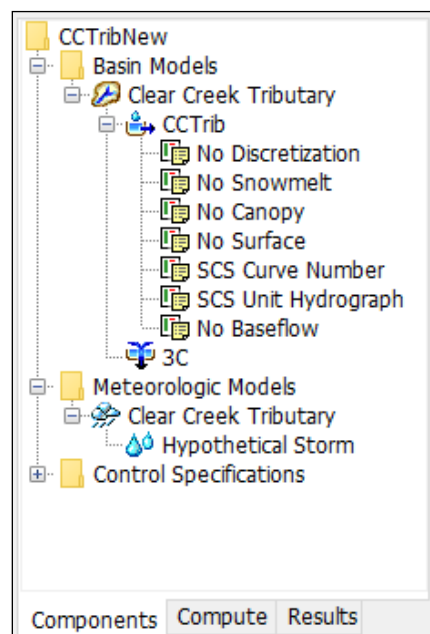

Figure 4 HEC-HMS Project Explorer
14. Expand "CCTrib". The HEC-HMS Project Explorer should appear similar to Figure 4.